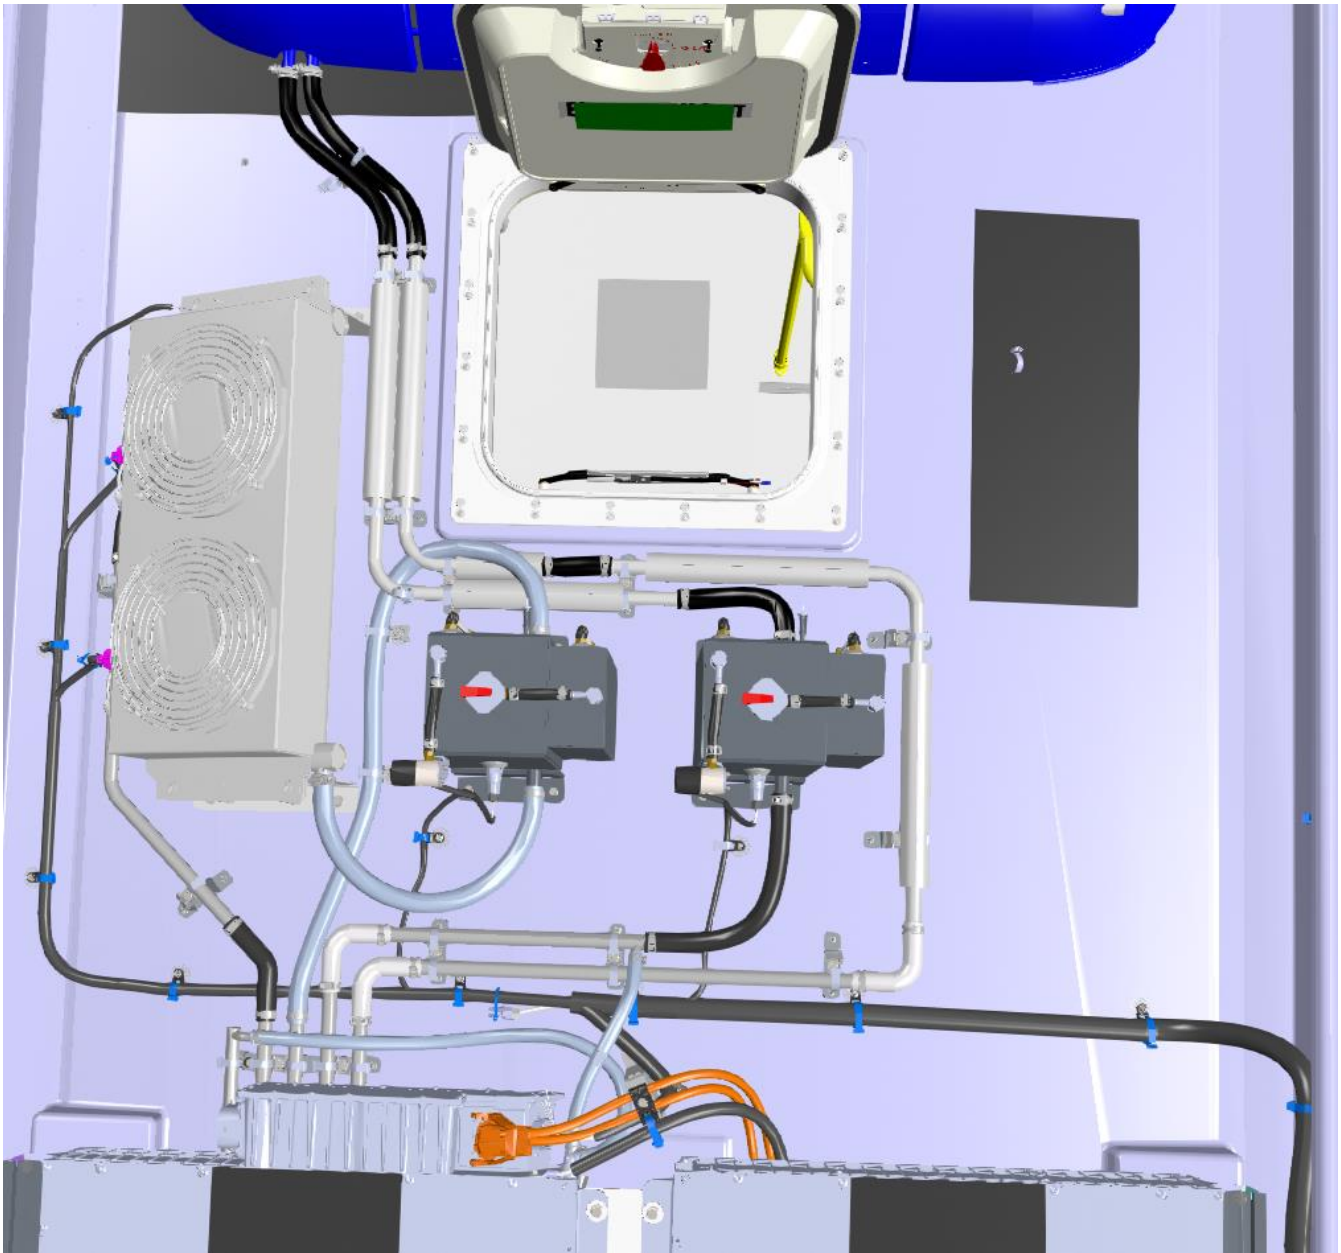

Figure 2
5. Review the current routing of the rooftop coolant lines as shown in Figure 2. Review the final retrofit routing shown in Figure 2.